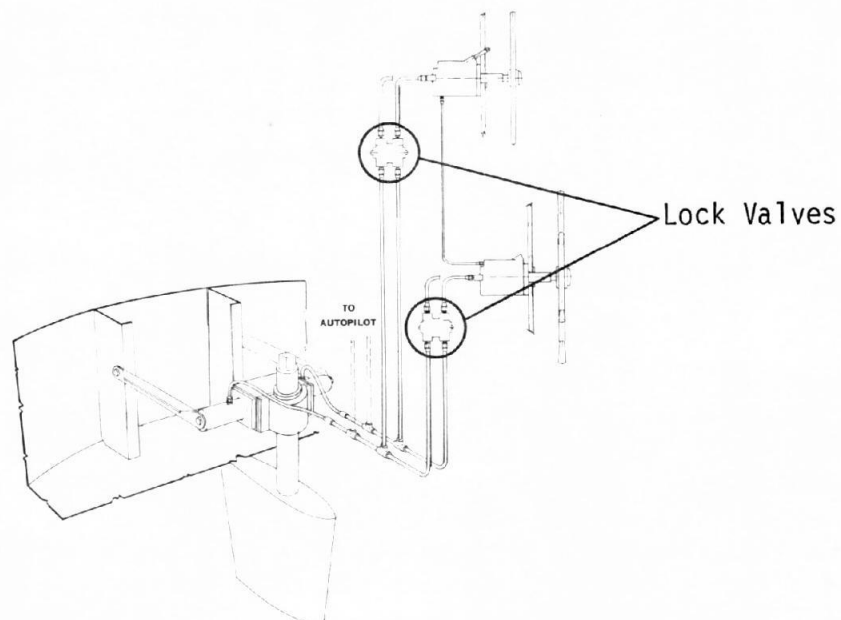

FIGURE 29. HYDRAULIC SYSTEM WITH TWO LOCK VALVES
1. If the vessel's hydraulic system is the type that will "motor" when subject to hydraulic pressure, a second lock valve must be added between the helm(s) and the Servo Motor. Refer to Figure 29 for a typical installation.